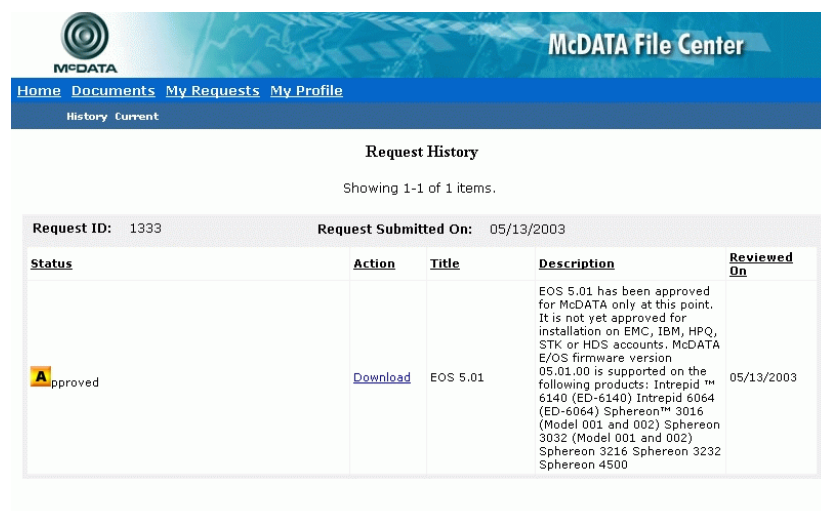

Figure 4-37 McDATA File Center (Request History Page)
7. Click *Submit Request*. The *Request Submitted* page displays and the request for approval is e-mailed to the McDATA Solution Center. Wait five to ten minutes for a response from McDATA, then select (click) the *My Requests* option at the top of the page. The *Request History* page displays (Figure 4-37) with the approved request.